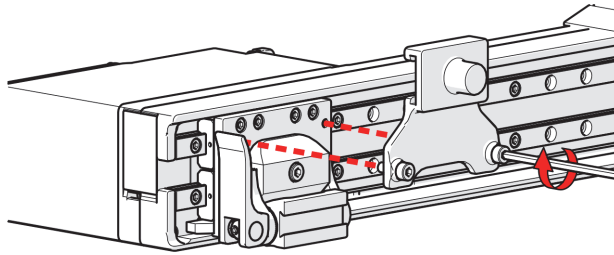

Figure 2-57 Attach the carriage bracket
15. Attach the carriage bracket to the raster arm carriage (see Figure 2-57 on page 85).